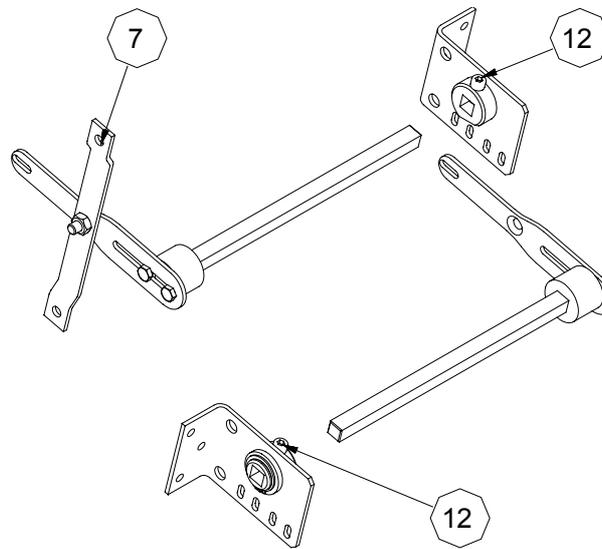

Figure.5
- 5. MOUNTING PLATES AND ARMS JOINT:** Before joining the mounting plates and the arms, it should be checked which is the right plate and which is the left one. The arm with the governor linkage (7) must be introduced in the plate of the side where the lift speed governor is placed and the arm without the governor linkage will be introduced in the other plate. The support cap screw (12) must be tightened in order to fix together the mounting plates and the arms - Fig. 5